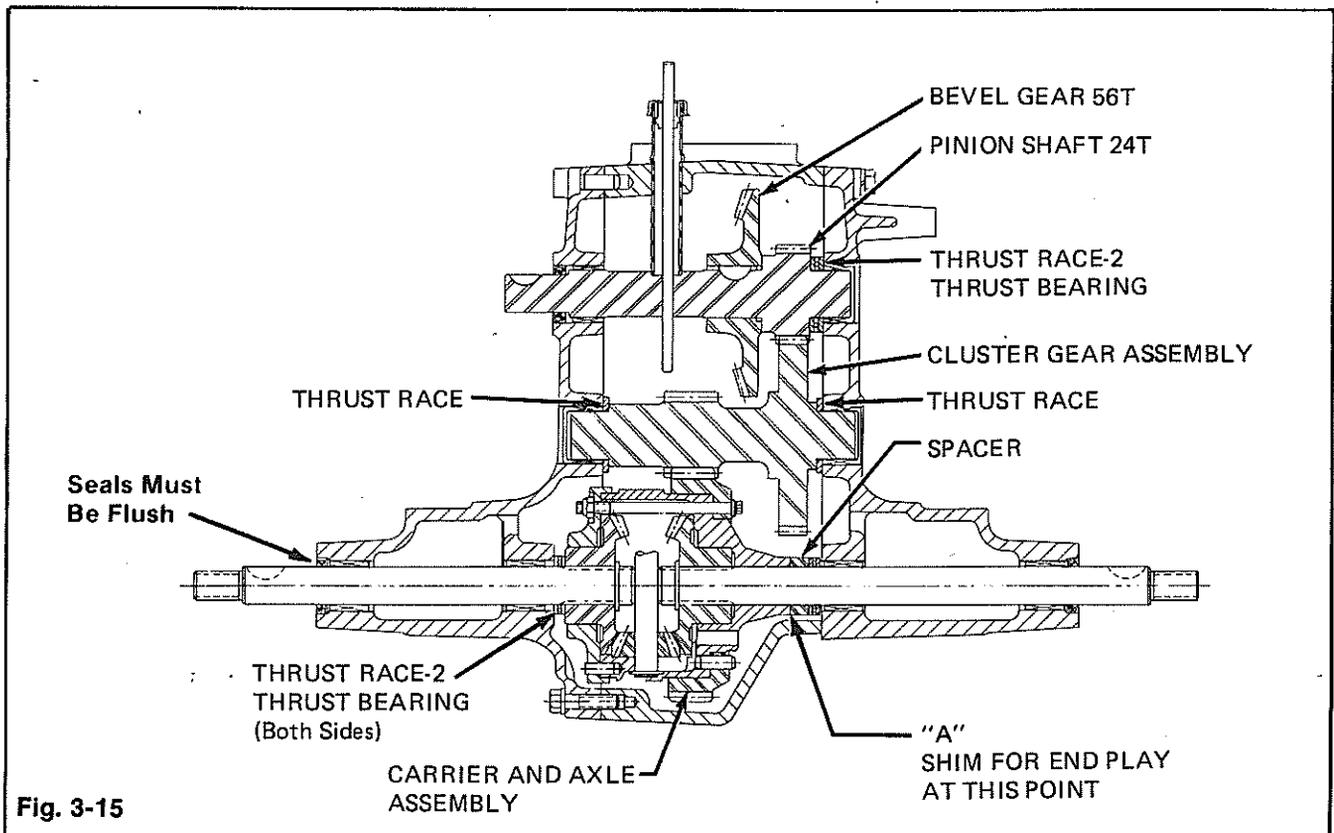

Fig. 3-15
10. Install differential carrier/axle assembly into the left side housing. Be careful not to damage axle seal when installing it in end of housing. Make sure all shims and washers are in place as they were when removed. See Fig. 3-15 for reference.
(Figs. 3-15 & 3-16)